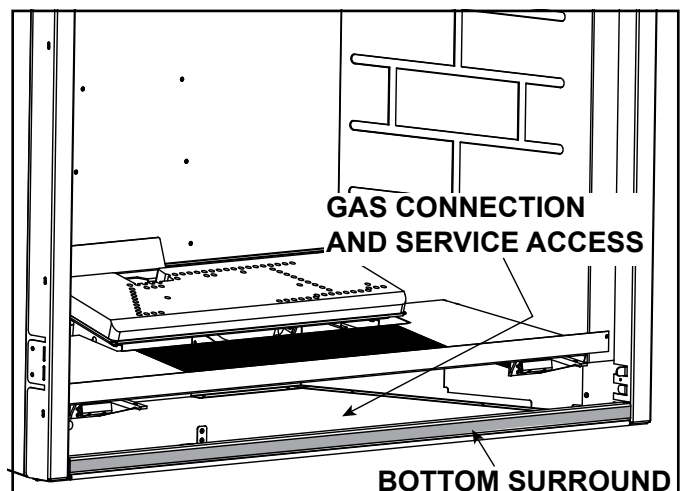

Figure 9.1 Bottom Surround Removal (Generic Fireplace Shown)
- The bottom surround for this appliance may be removed to gain access to the control cavity for ease of access during the gas connection process. See Figure 9.1 and Figure 9.3.